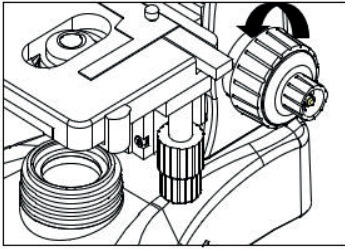

Fig.5
2.2.3 Installing objectives (Fig.5 - 6)